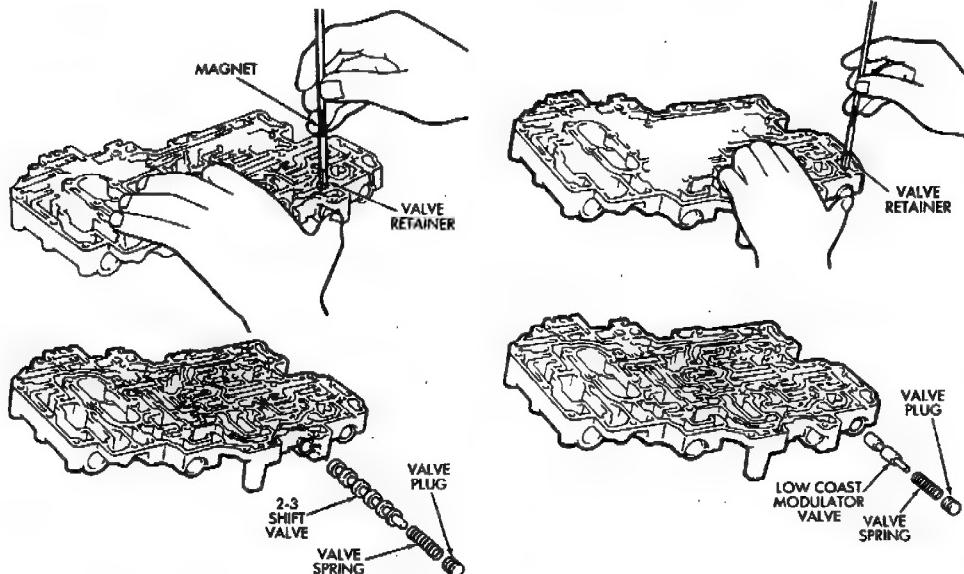

Fig. 12 Removing/Installing 2-3 Shift Valve
(4) Install 2-3 shift valve, spring and plug in valve bore. Press plug inward and install retainer (Fig. 12).